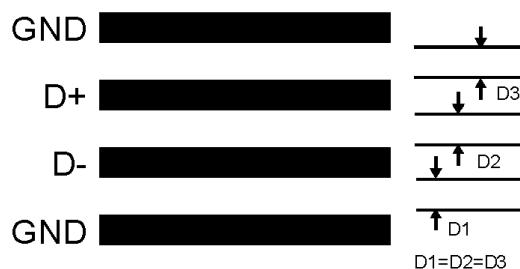

Figure 6. Ideal Diode Trace Layout
4. Diode traces should be surrounded by a GND guard ring to either side, above and below if possible. This GND guard should not go between the D+ and D- lines so that in the event that noise does couple to the diode lines, it would be coupled common mode and rejected. (See Figure 6)